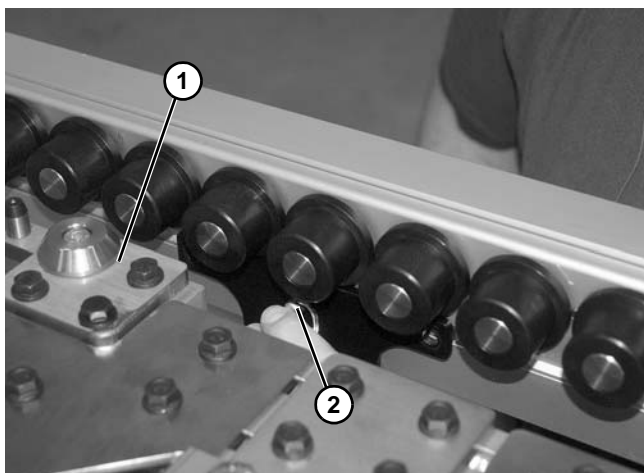

Figure 19
2. Raise lift and locate station (**Figure 19, item 1**) into position from under the conveyor, lining up center pin (**Figure 19, item 2**) in slotted channel of conveyor channel. Repeat on opposite side.